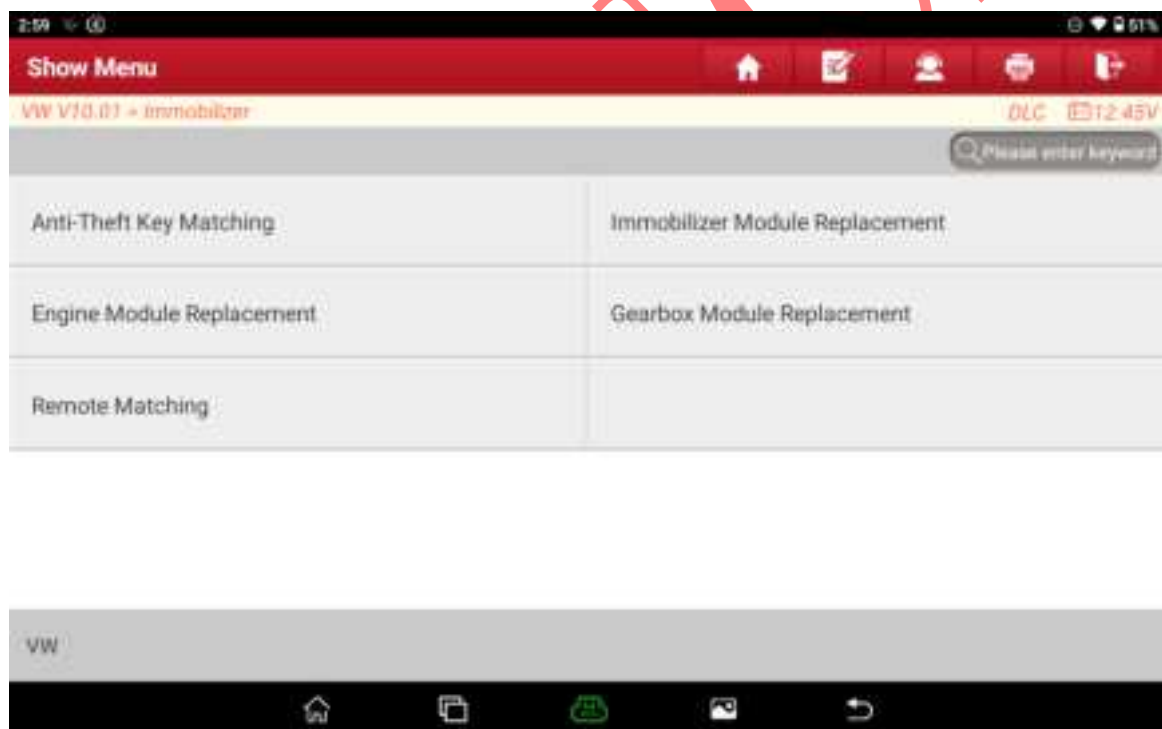

Figure 1
1. Take IMMO Pro as an example. Enter the VW immobilizer and choose [Anti-Theft Key Matching], as shown in Figure 1.